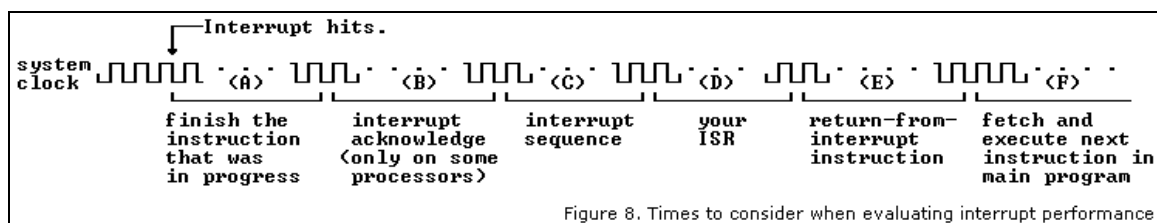

Figure 8. Times to consider when evaluating interrupt performance.
Figure 8 shows all the various times that should be considered when evaluating overall interrupt performance. (Some processors' sequence of events may vary from the diagram.) *Interrupt latency* is generally the amount of time it takes for the processor to begin the ISR after the interrupt line goes true. Sometimes this is measured in terms of the interrupt sequence only, which is 7 clocks for the 6502. The interrupt sequence is depicted in Figure 8(C). (The single-clock latency trick is still coming.)
Just as often however, interrupt latency includes more than just the sequence. It may also include the amount of time to finish up an already-started machine-language instruction before the interrupt sequence can begin, as depicted in Figure 8(A), and additionally on some processors, the time to do a separate interrupt-acknowledge step as depicted in Figure 8(B). The 6502's simpler method does not require this interrupt-acknowledge step or the associated extra hardware.
Another part of the processor's performance that is particular to interrupts is the return-from-interrupt instruction. In the case of many other processors, even this instruction depicted by Figure 8(E) in the diagram, whether called RETI, IRET, REIT, RETFIE, etc., by itself takes longer than A through E combined on a 16 or 20MHz 65C02 with a minimal ISR (like just incrementing a single byte in RAM)!
The single capital letters in parentheses below indicate, to the best of my understanding, what part of the interrupt time is being measured, in terms of Figure 8. Some of the information came from ST Microelectronics applications note AN910, at www.st.com/stonline/books/pdf/docs/5039.pdf. Those are noted by "ST" beside them. Other figures come from data books, either on my shelves or online. Frequencies shown in MHz are the maximum speeds as far as I have information. cy=clocks, unless otherwise noted. Avg=average.